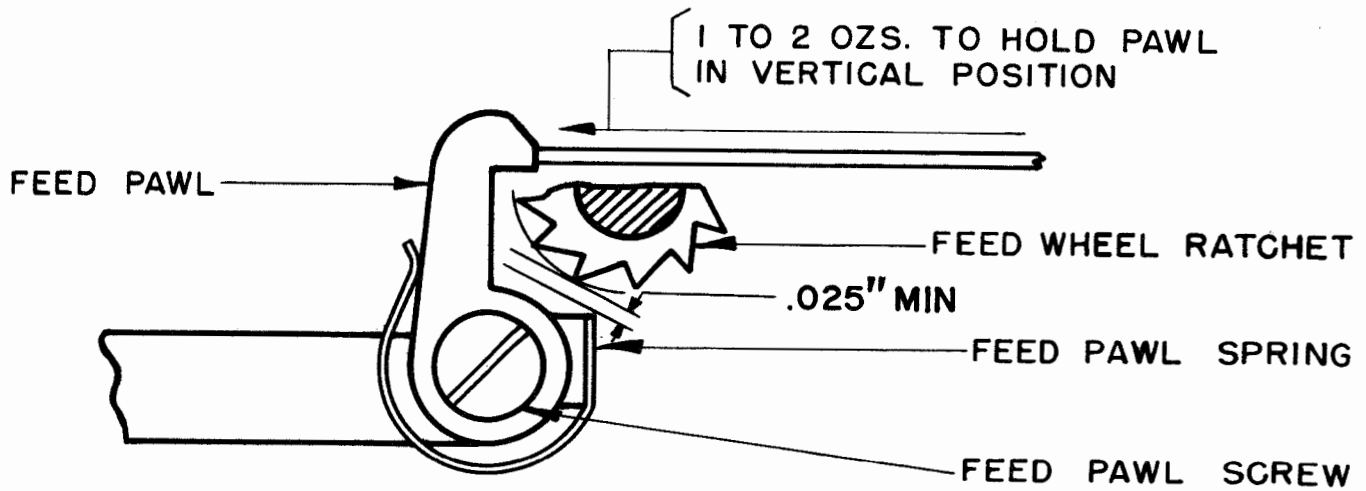
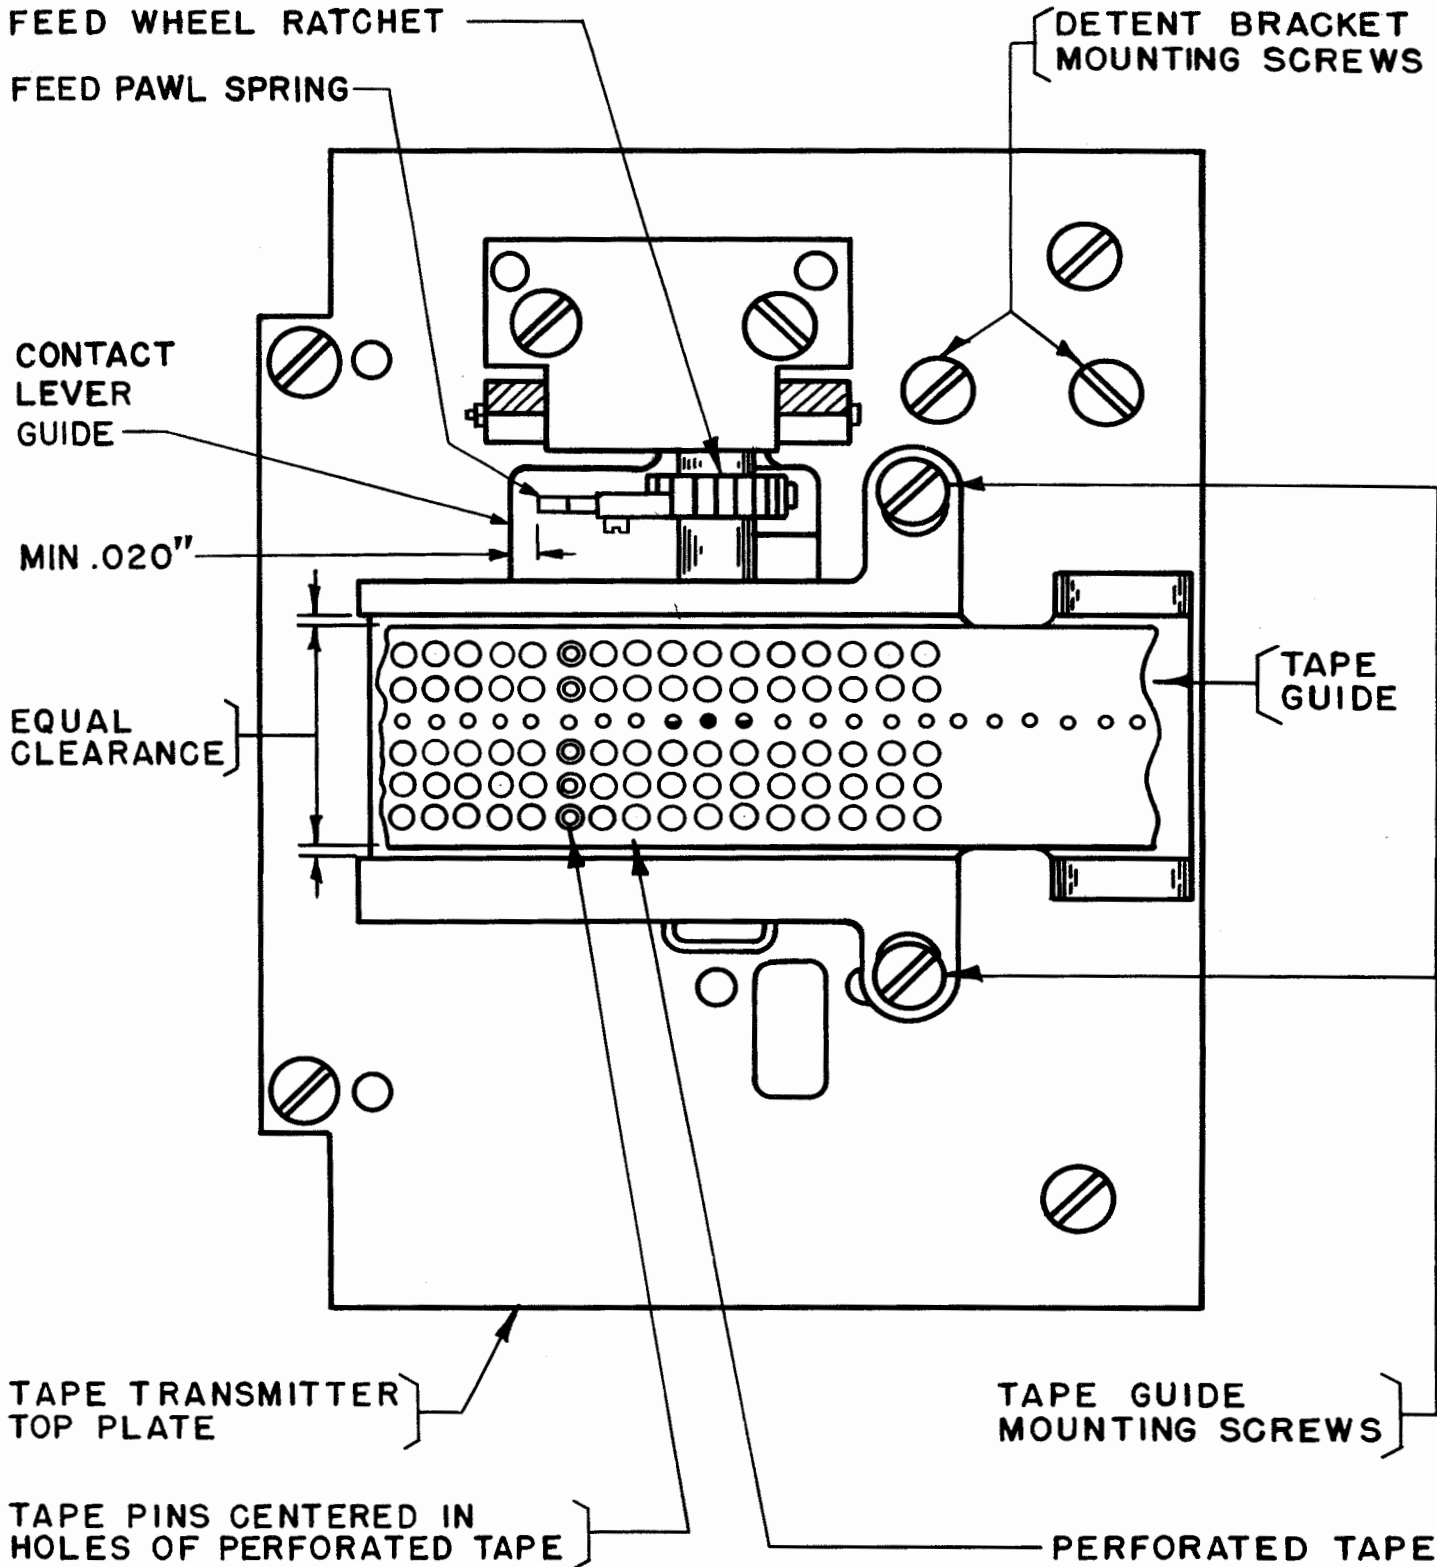
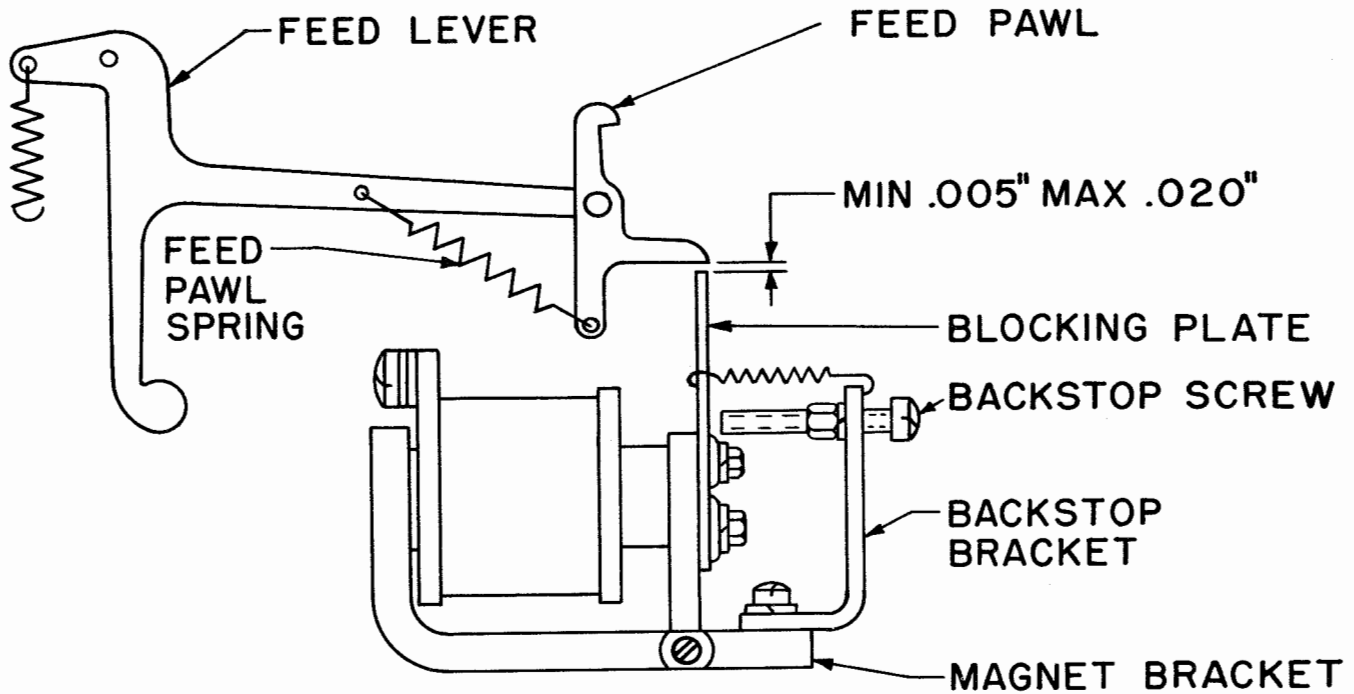

Figure 18
Figure 21
Figure 30
3.01 Tape Feed-pawl Spring Tension: Rotate the motor shaft until the feed pawl is in its uppermost position. It shall require minimum 1 ounce, maximum 2 ounces to hold the pawl in a vertical position. (See Figure 18.)
wheel, there shall be equal clearances between edges of the tape and the tape guide. (See Figure 21.)
3.08 Feed-pawl Spring Clearance: There shall be minimum 0.020 inch clearance between the side of the feed-pawl spring and the contact-lever guide (Figure 21). There shall also be minimum 0.025 inch clearance between the feed-pawl spring and the feed-wheel ratchet when the feed pawl is in its uppermost position (Figure 18).
5.03 Feed-pawl Spring tension shall be minimum 1 ounce, maximum 2 ounces measured as in Figure 18. In this case the spring is not adjustable. (See Figure 30.)
5.05 Blocking Plate Clearance: With the magnet energized and the feed lever in its uppermost position, there shall be minimum 0.005, maximum 0.020 inch clearance between the blocking plate and the extension of the feed pawl. (See Figure 30.)